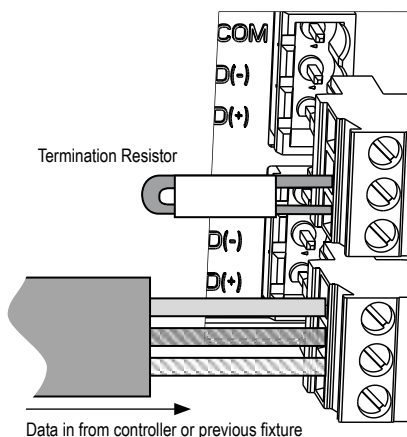

Figure 4. Fixtures come with pre-installed termination resistor. The resistor should remain installed only in the last fixture of each run.
5. Ensure the termination resistor is installed into the last luminaire in each run as shown in Figure 4.